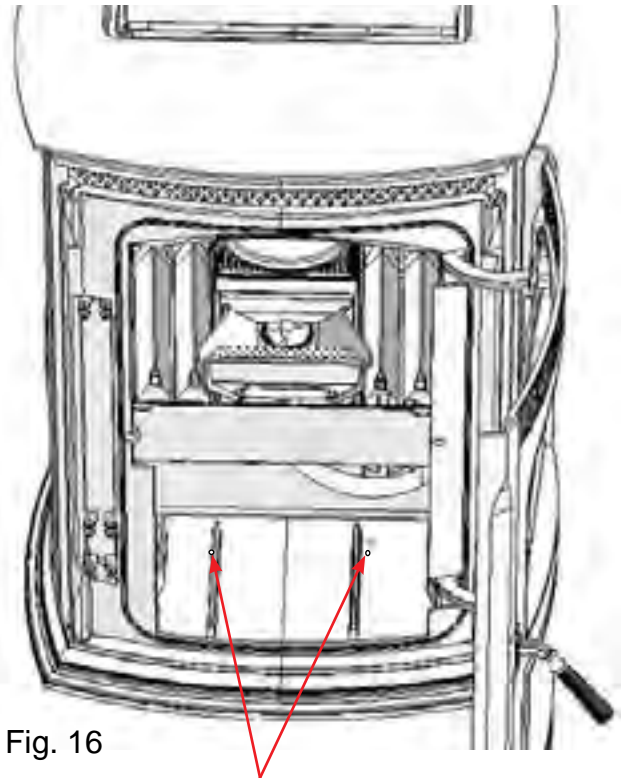

Fig. 16
1. The unit must be bolted to the floor. This can be done with 1/4" lag screws through the 2 holes in the base plate shown in Fig. 16
Canadian Standard ULC S627 requires that all outdoor-aired space heaters must be attached to the structure. See page 12, Fig 16.